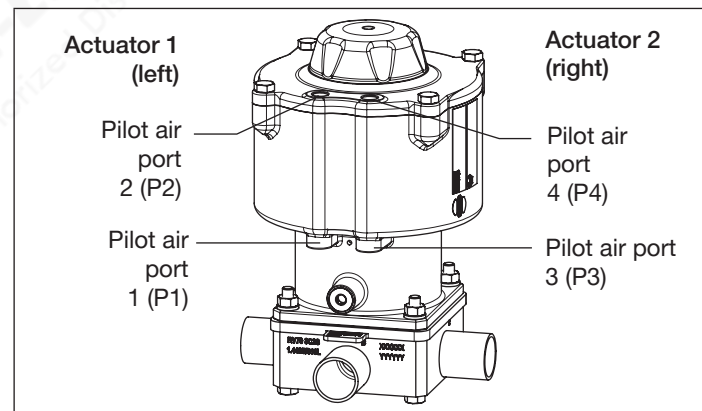

Fig. 24: Pneumatic connection
5) Actuator assignment see “Fig. 24”.